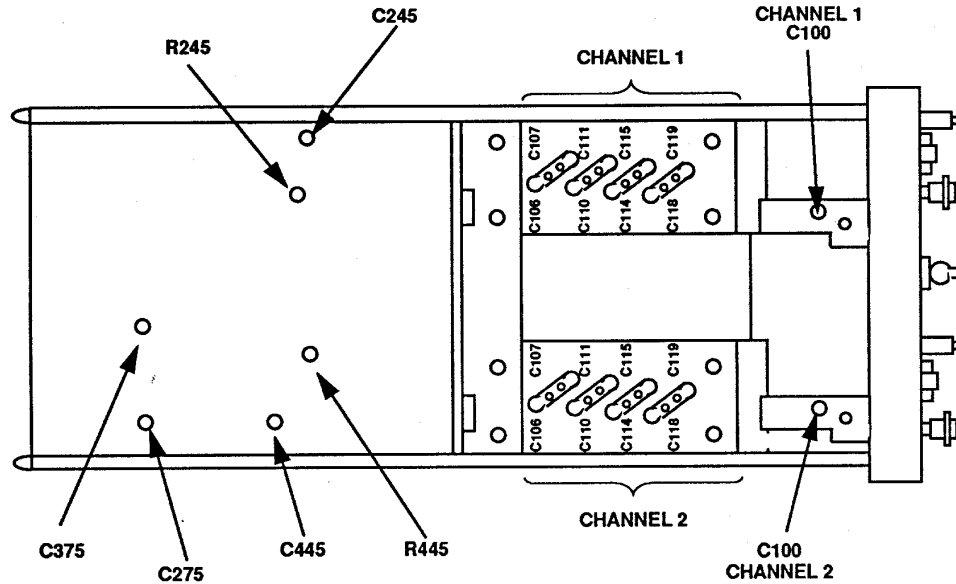
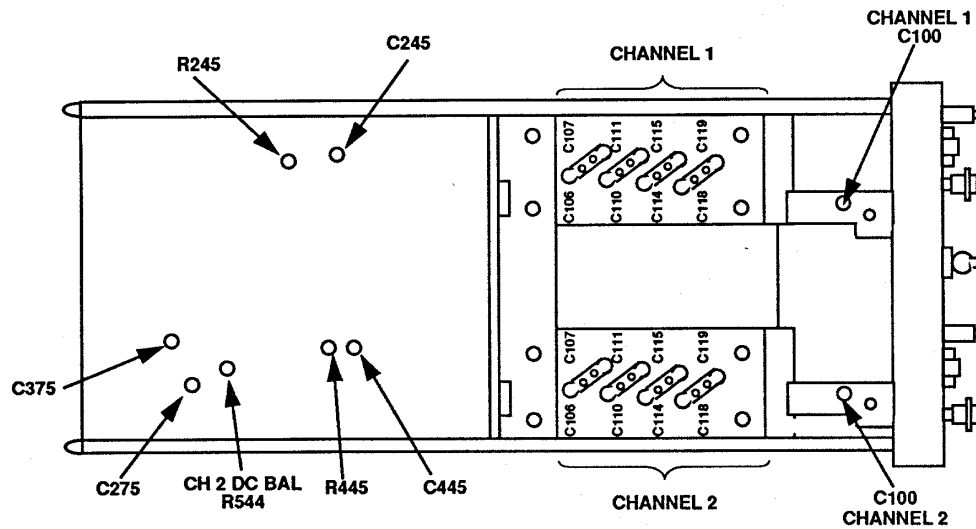

Figure 1. AM688/U (Tektronix, Type 7A18) - left side view.
Figure 2. Tektronix, Type 7A18A and 7A18A w/option 06 - left side view.
(16) Deenergize oscilloscope and remove TI from left vertical compartment and reinstall, using extender.
(17) Energize oscilloscope.
(18) Set **CH 1 VOLTS/DIV** switch to **5 mV** and **DISPLAY MODE** switch to **CH 1**.
(19) Ensure oscilloscope calibrator **CHAN 1** is connected to **CH 1** using a 5-80 pF standardizer. Press oscilloscope calibrator **CHANNEL** pushbutton and press blue soft pushbutton located below **CHAN 1**.
(20) Set oscilloscope calibrator **EDGE** output frequency to 1 kHz.
(21) Adjust oscilloscope calibrator output for 6 divisions of display.
(22) Adjust standardizer for optimum square wave. If optimum square wave cannot be obtained, adjust **CHANNEL 1 C100 (CH 2 adjust C100 CHANNEL 2)** (fig. 1 or 2) to midrange and readjust standardizer for optimum square wave.
Use figure 1 for AM-6880/U (Tektronix, Type 7A18), and figure 2 for Tektronix, Type 7A18A and 7A18A w/option 06.
VOLTS/DIV switch settings	CH 1 and CH 2 adjustments (fig. 1 or 2) ¹
(2) Connect oscilloscope calibrator **CHAN 1** to TI **CH 1** using a 50 Ω feedthrough termination. Set oscilloscope output to **CHAN 1** using technique in (11) above.
(3) Set **DISPLAY MODE** switch to **CH 1** and **CH 1 VOLTS/DIV** switch to **10 mV**.
(4) Set oscilloscope calibrator to **EDGE**, and output to 60 mV at 1 kHz.
(5) Adjust **CH 1 POSITION**, oscilloscope, and time base controls as necessary to view waveform.
(6) Rotate oscilloscope calibrator knob located below **EDIT FIELD** pushbutton to obtain 6 divisions on oscilloscope display. If aberrations are not less than 0.24 divisions peak-to-peak, adjust **R245**, **C245**, and **C275** (**CH 2** adjust **R445**, **C445**, and **C375**) (fig. 1 or 2) for optimum square wave with aberrations of less than 0.24 divisions peak-to-peak (R).
(7) Repeat technique of (2) through (6) above for **CH 2**.